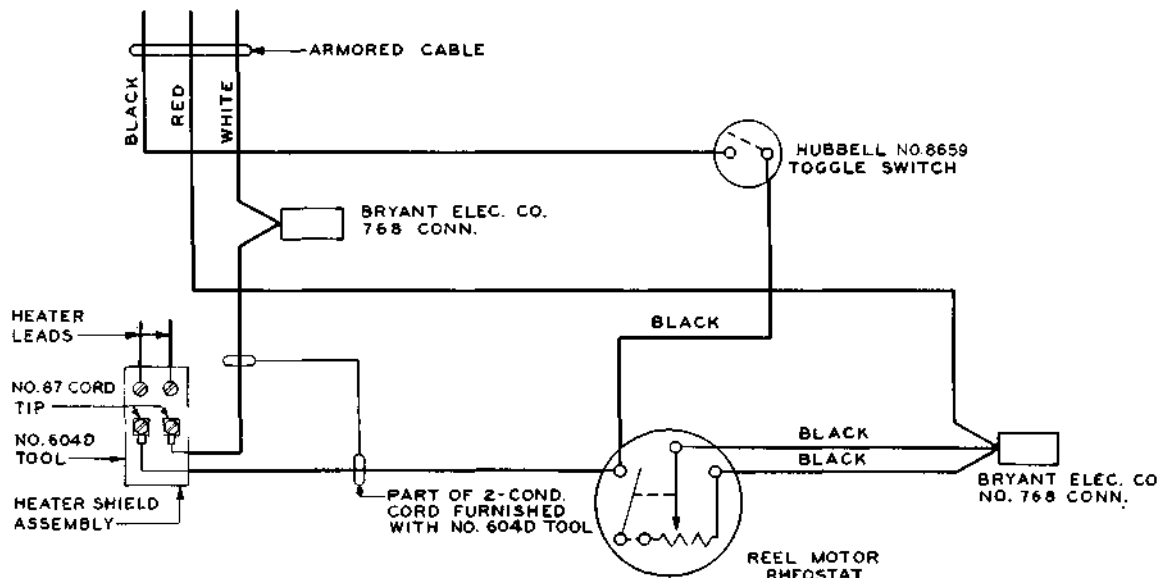
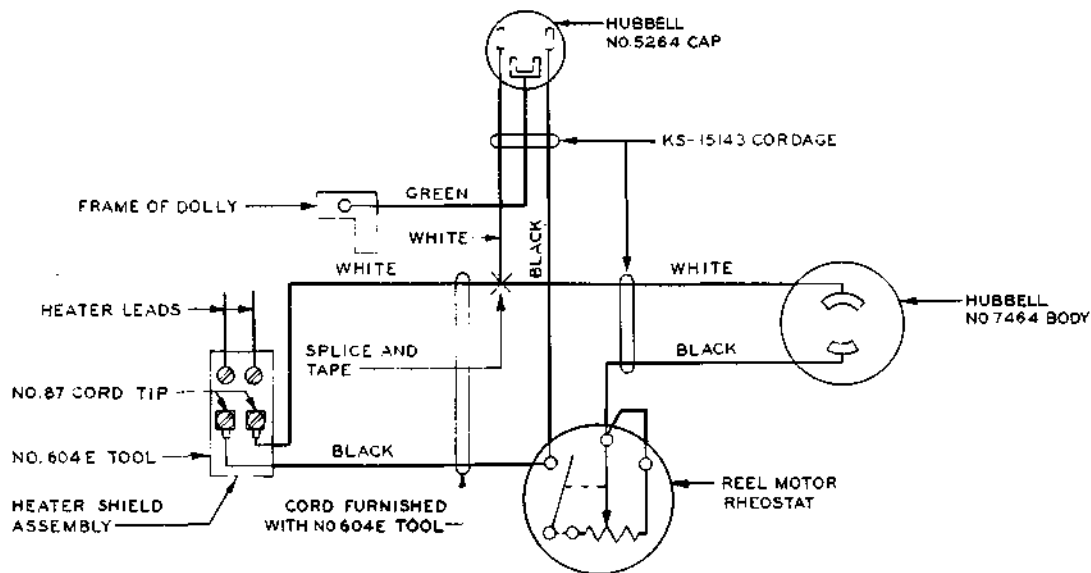
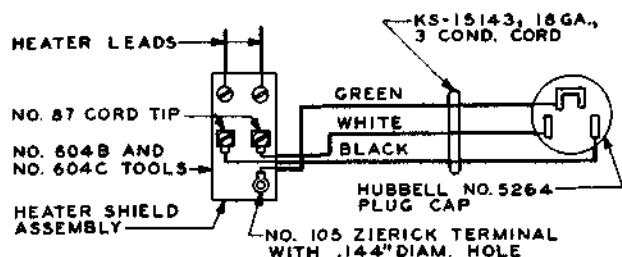

Fig. 8--Wiring Diagram--604D Splicer
Fig. 9—Wiring Diagram—604E Splicer
Fig. 10—Wiring Diagram—604B and C Splicers With 3-Conductor Cord
**3.07 Cord:** Remove the cord cleat on the back of the base by removing the cord cleat mounting screws with the 3-inch **C** screwdriver. Bring the heater down on the anvil, and remove the cord cleat and terminal insulator mounting screws using the 3-inch **C** screwdriver. Remove the cord cleat and terminal insulator. Loosen the cord terminal screws using the 3-inch **C** screwdriver, and remove the cord. Remove the outer covering on both ends of the new cord for a distance of 2 1/2 inches, exposing the rubber-covered leads. Remove the insulation from the ends of these leads for 3/16 inch. Where the 2-conductor cord is to be used with the 604A, B, or C splicer, solder an 87 cord tip to one end of each lead and attach a Hubbell 5964 plug cap to the other end of the cord. A 2-conductor cord is used on the 604D and E splicers. Solder an 87 cord tip to one end of each lead, and connect the other end of each lead as shown in Fig. 8 for the 604D splicer and Fig. 9 for the 604E splicer. Where the 3-conductor cord is to be used with the 604B or C splicer, solder 87 cord tips to one end of the black and white leads and a Zierick 105 terminal with a 0.144-inch diameter hole to this end of the green lead. Attach a Hubbell 5264 plug cap to the other end of the leads as shown in Fig. 10. Connect the cord to the splicer, clamping the cord tips firmly under the terminal screws. Place the cleat on the cord and the terminal insulator under the cord. Insert the cleat mounting screws. Arrange the leads neatly in place, and position the cord so that its outer covering projects 1/8 to 1/4 inch beyond the inner side of the cleat. Tighten the screws securely.